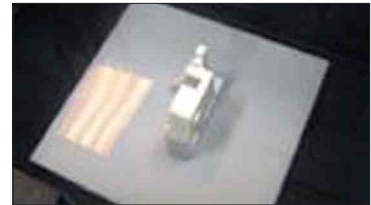

Fig. 92
2. Submerge Print Pad and the base of the part in warm water for five minutes. (Fig. 92) If you do not have the ability to submerge the Print Pad place Print Pad in sink and let hot water run over the base of the part for about 5 minutes.